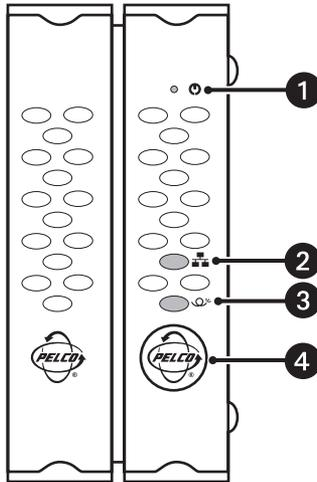

Figure 2. Front Panel of FX82051 Module
Figure 2 illustrates the front panel of the FX82051 module.
- LED indicators on the front panel (refer to Figure 2) allow you to monitor operating power, 100BASE-FX port status, and optic signal/laser status. Refer to Table B for information about the front-panel indicators and associated troubleshooting guidelines.